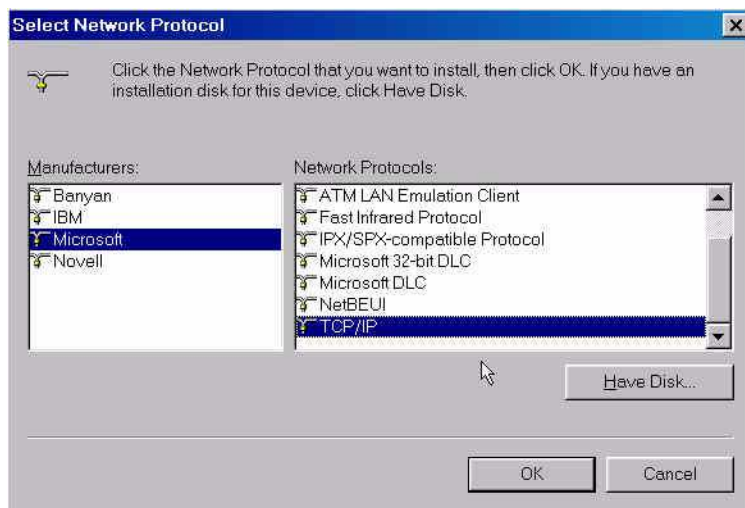

Figure 7 Select Network Protocol Window
6. Click **MICROSOFT** in the **MANUFACTURERS** section and then click **TCP/IP** in the **NETWORK** protocol section on the **SELECT NETWORK PROTOCOL** window (Figure 7).